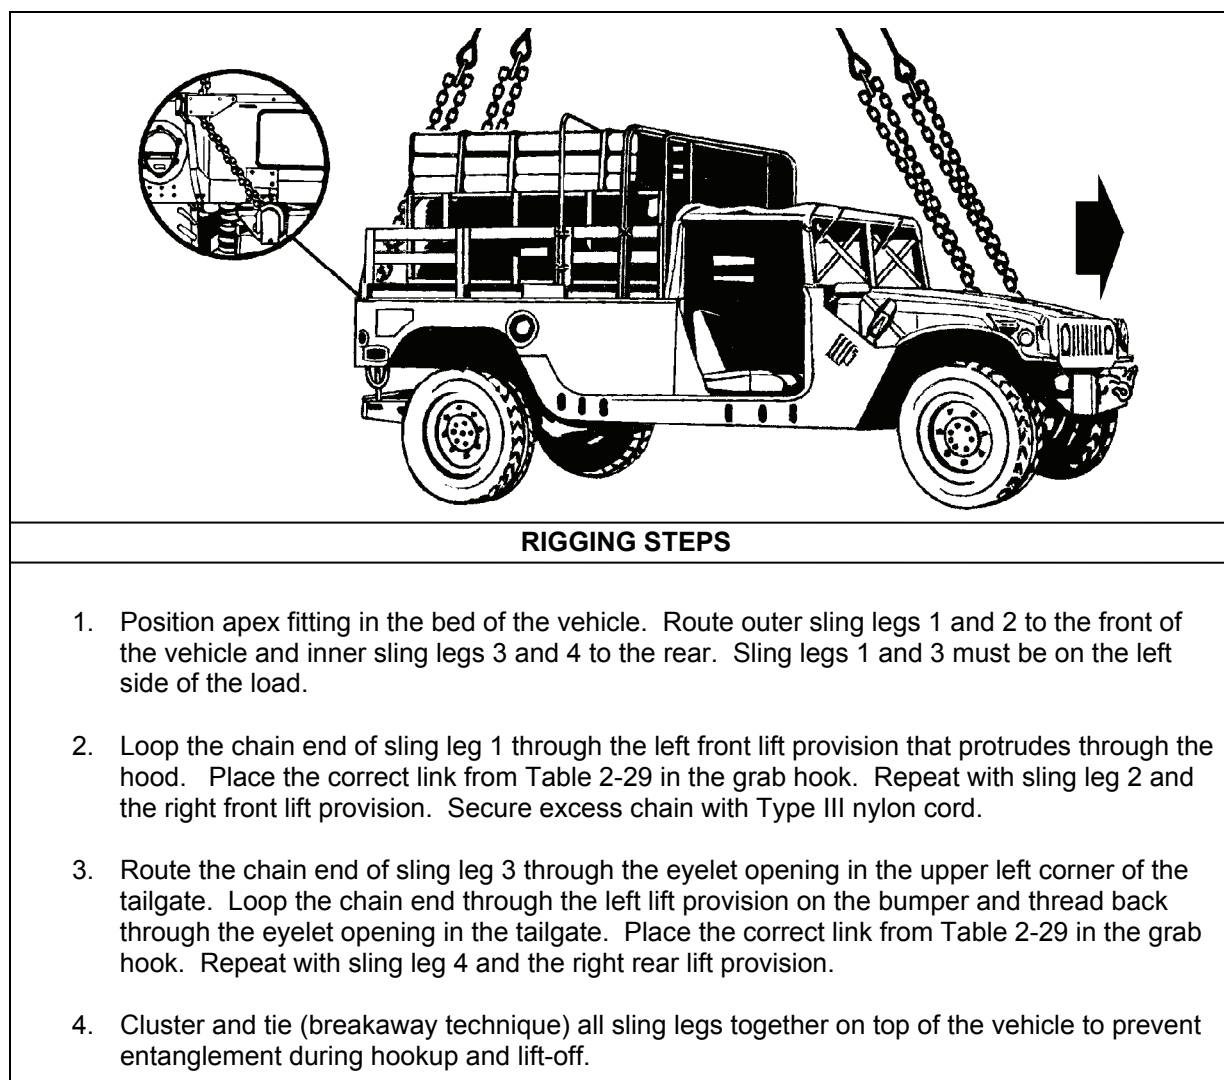

Figure 2-28. M998 with Two MRC-127 Stacks
- **Rigging.** Rig the load according to the steps in Figure 2-28.